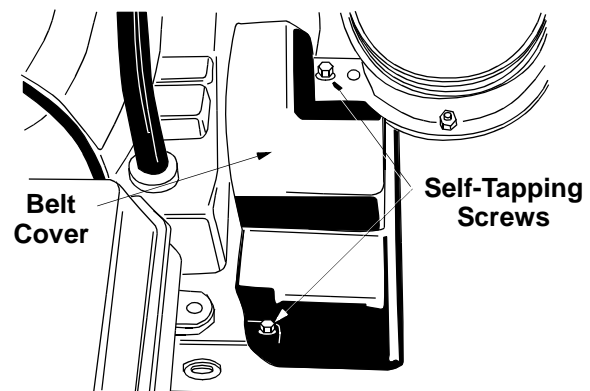

Figure 28
1. Remove the plastic belt cover on the front of the engine by removing the two self-tapping screws. See Figure 28.